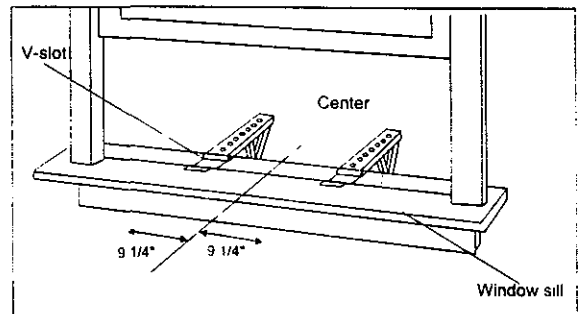
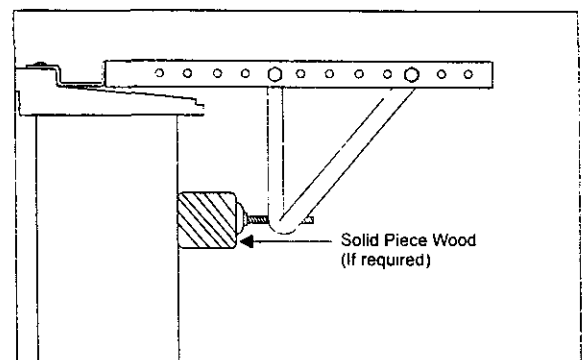

Fig 14
Fig 15
Two bolts per bracket. Secure with the (2) **1/4" lock washers** and (2) **1/4" nuts**. **DO NOT** immediately tighten these bolts as it may be necessary to adjust the depth of the **bracket assembly**, depending on the depth of your window sill. See (Fig 14). Install the two **leveling screws** into the 90 support brackets. Test the bracket assembly in the window before cabinet installation. If the leveling screws are distanced too far away from the wall to provide stability, it may be necessary for you to shim this area with a solid piece of wood. See (Fig 15)
B. Measure the inside window sill width and find the center as shown in (Fig 14) Measure 9 1/4" from the center line on each side and mark these points. Align the **V-slot** in each bracket on these marks and mount the brackets to the sill using **3/4" screws** provided. Brackets should be perpendicular to the inside window sill. See (Fig 14)
Use a solid piece of wood to provide stability. This will be required when sills are extra deep. See (Fig. 15).